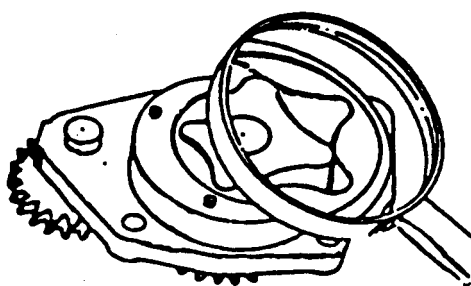

FIGURE 3-63. Pump Housing Inspection.
- d. Inspect the pump housing (FIGURE 3-63) and gerator drive for damage and excessive wear.